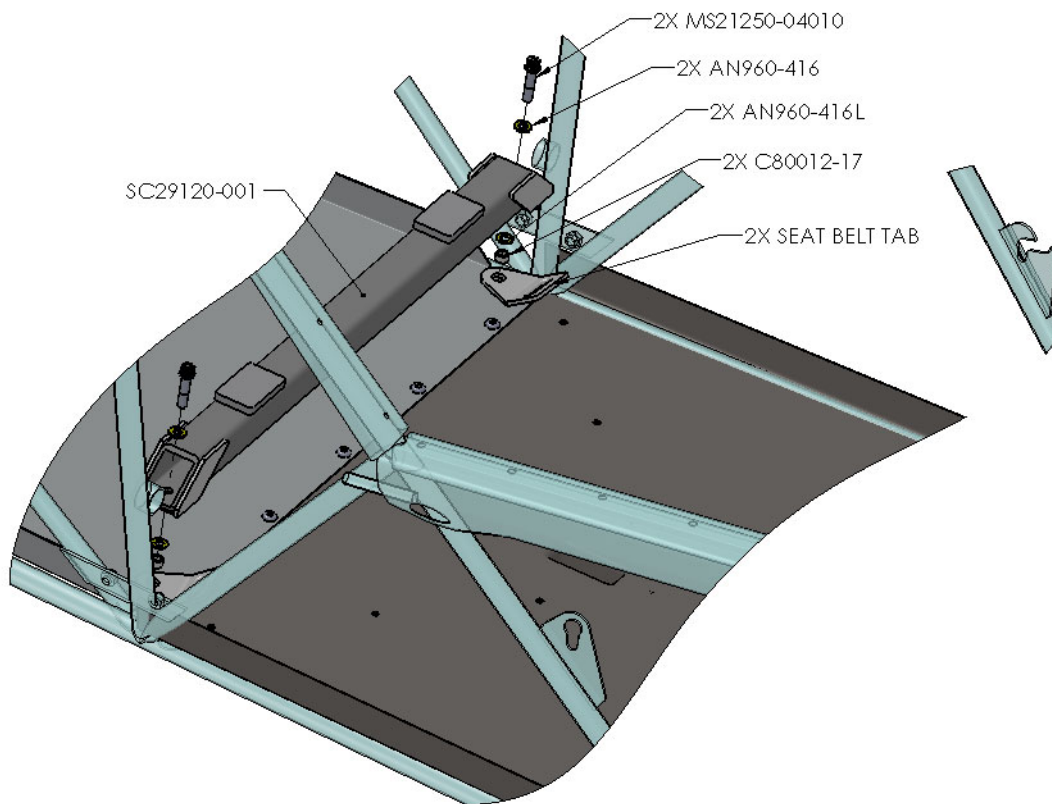

Figure 1 – Aft Seat Beam Temporary Installation
- 16. Reinstall the entire seat subassembly into the fuselage. Bolt the cross beam to the fuselage using hardware shown in Figure 1.